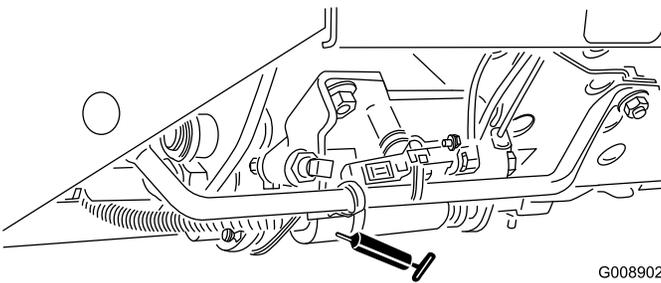

Figure 37
- Mow/transport slide (Figure 37)